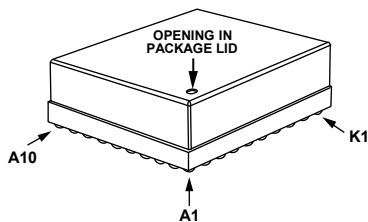

Figure 62. Pressure Relief Hole
- The hole in the top of the lid (see Figure 62) provides venting and pressure relief during the assembly process of the ADIS16507. This hole must be kept clear while attaching the ADIS16507 to a PCB. Although, covering the hole in normal operation is not typically a problem.